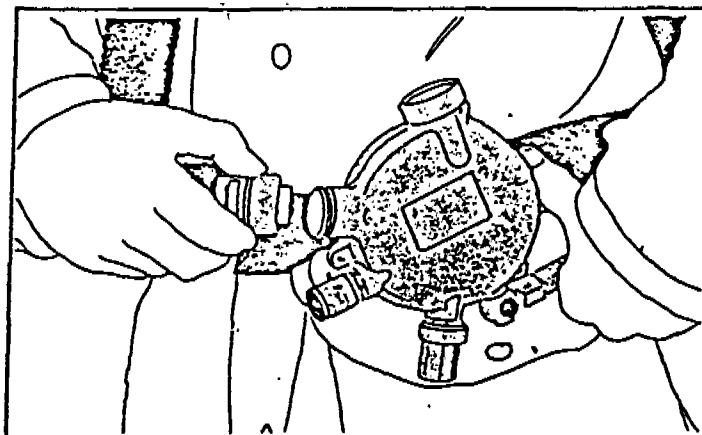

Figure 8
16. Attach the low-pressure hose to the regulator. (Figure 8).